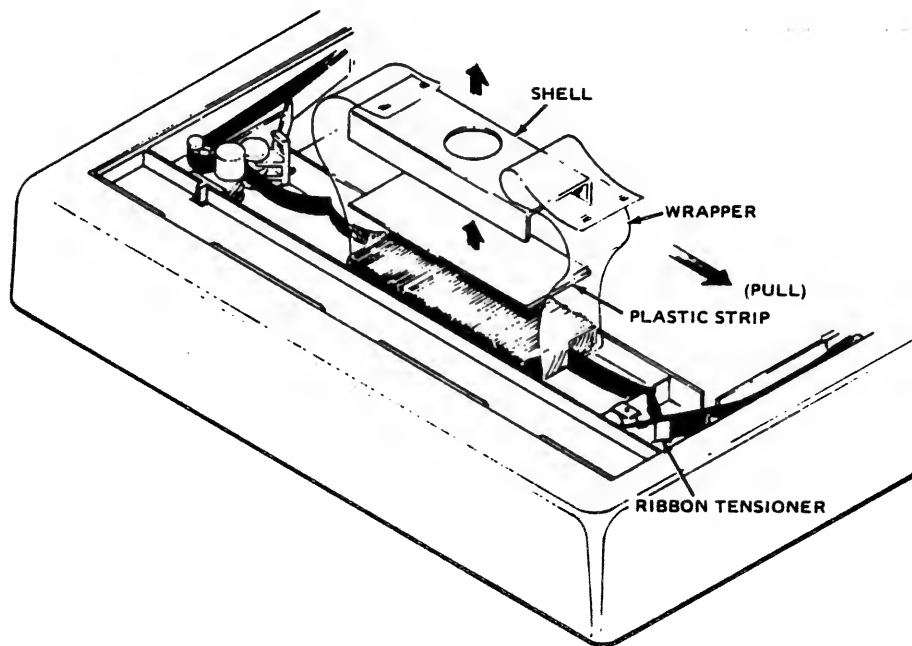

Figure 5. ZIP-PACK INSTALLATION DIAGRAM
5. Place Zip-Pack in printer tray as shown in Figure 5.